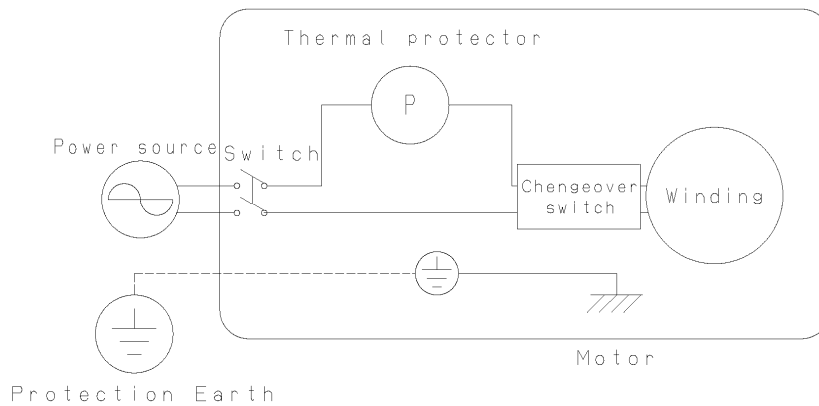

Fig. 5 Electric wiring diagram
- (1) The pump rotates in the clockwise direction as seen from the front of the pump (level gauge side).
- (2) When wiring, open the terminal box of the motor and connect the wires as shown in Fig. 5.